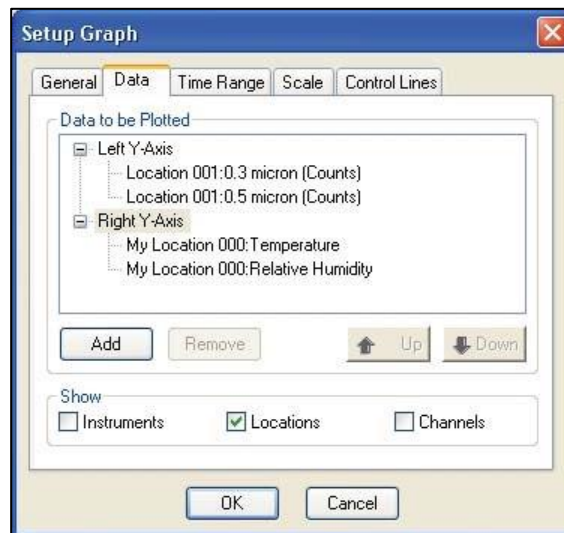

Figure 3-6 Graph Setup - Data Set Information
- Next, select at least one data set. Select data set(s) by clicking the Add button in the “Data to be Plotted” section of the Setup Graph window (Figure 3-6).